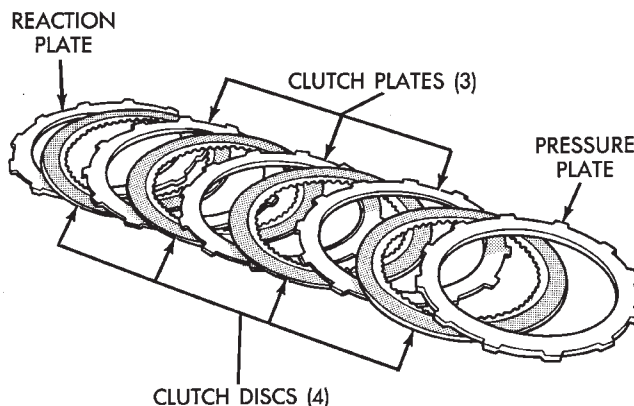

Fig. 198 46RE Overdrive Clutch Component Position
- (3) Note position of clutch pack components for assembly reference (Fig. 198).